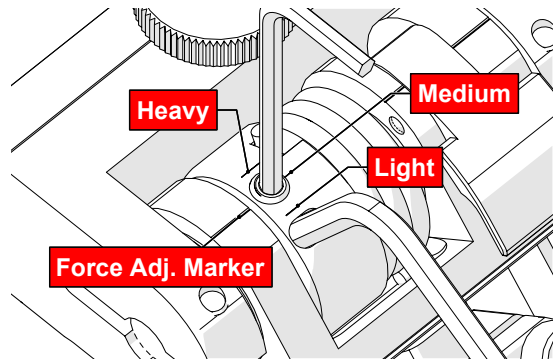

Fig. 161 - Choose desired tension
6. Gently apply pressure on the long leg of the 3 mm hex wrench until the force adjustment marker lines up with the desired spring tension. While keeping the markers in line, tighten the force adjustment screw (Fig. 161).